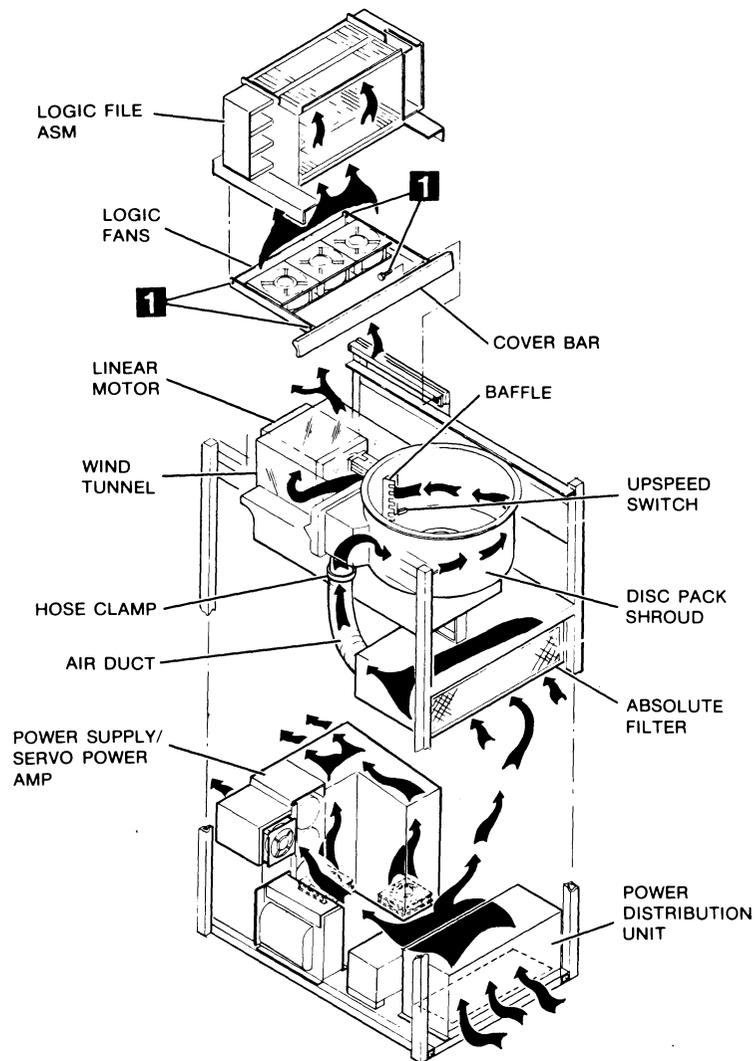

FIGURE 4-14. AIRFLOW AND FILTRATION SYSTEM
Procedures to use in replacing the absolute filter, a logic fan, air baffle, or upspeed switch are presented in the following paragraphs (refer to Figure 4-14). No special tools are required.
3. Remove four screws, 1 in Figure 4-14. The two screws at the rear are removed from the rear of the drive. When all screws are removed, the logic fan assembly is free (can be dropped and withdrawn from the drive).